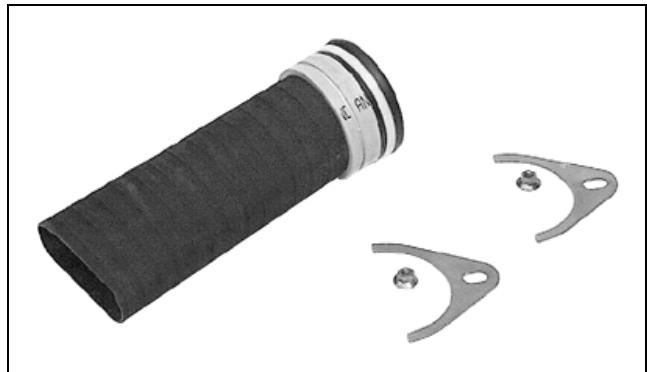

Figure 87. The conduit/tubing bracket assembly kit, shipped with gear.
- Locate the conduit/tubing assembly and the two holding brackets and bolts as shown in Figure 87.